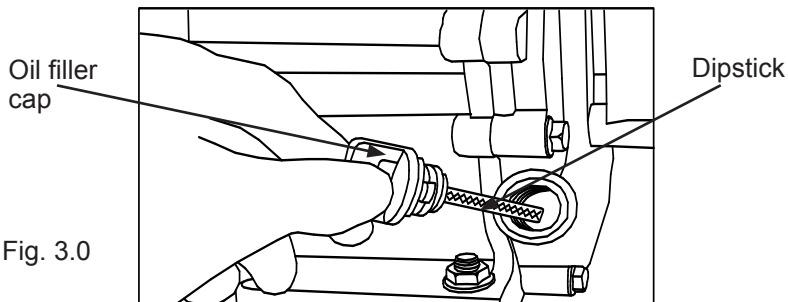

Fig. 3.0
1. Remove the oil filler cap and wipe the dipstick clean (Refer to Fig. 3.0)